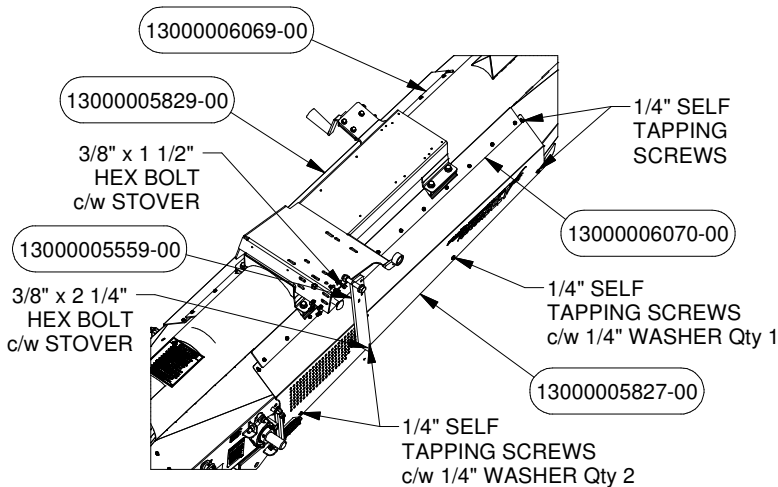

FIGURE 14
27. Place the Covers PN# 5827 and PN# 5829 with the Rubbers PN# 6069 and PN# 6070 to the Intake using Self Tapping Screws as shown in Figure 14. Fasteners can be found in Bolt Bag PN# 6068.